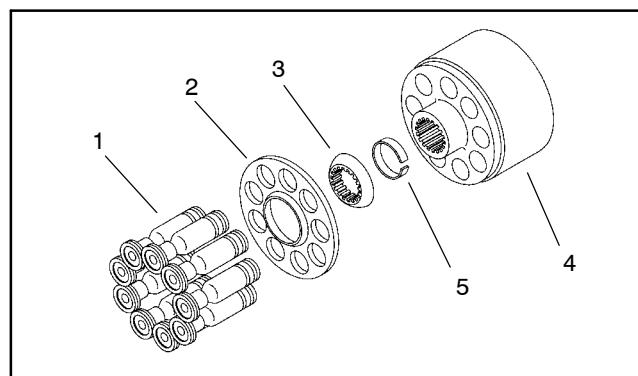

Figure 60
- A. The finish on the piston shoe surfaces of the camplate (11) should show no signs of scoring.
- B. Inspect camplate (11) bushing surface for wear. Also inspect surface for coating transfer from bushing.
- 4. Inspect bushing (44) for contamination embedment within coating of bushing surface coming in contact with camplate (11).
5. Inspect rotating kit (Fig. 60):